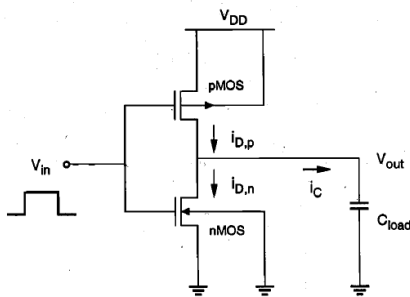

Fig.1. CMOS inverter
2. For the CMOS inverter shown in Fig.1 with a power supply voltage of $V_{DD}=5V$, determine the fall time τ_{fall} which is defined as the time elapsed between the time point at which $V_{out}=V_{90\%}=4.5V$ and the time point at which $V_{out}=V_{10\%}=0.5V$. Use both the average-current method and the differential equation method for calculating τ_{fall} . The output load capacitance is 1 pF.